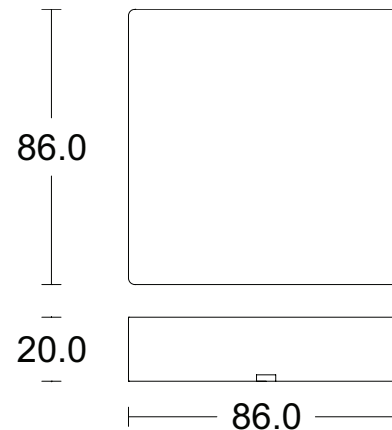

Fig.6.
3. Press **M** mode button to select preferred scene (12 options see Fig.6.)